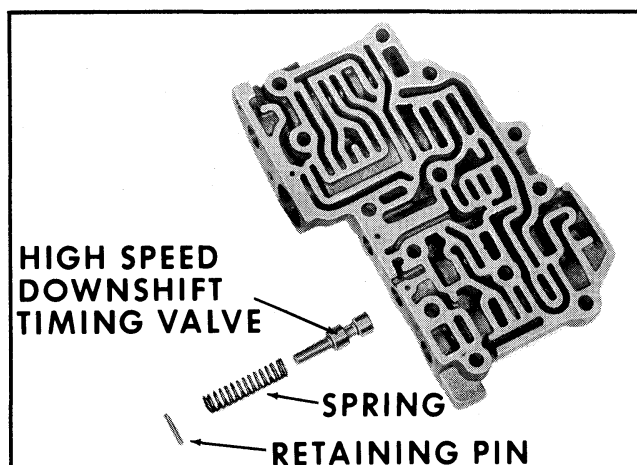

Fig. 7B-46 High Speed Downshift Timing Valve - Exploded View
4. Depress high speed downshift timing valve spring (using J-21361) and remove retaining pin by turning valve body over so that pin can fall free. Remove spring and valve (Fig. 7B-46). (Needle nose pliers can be used to depress spring and work out pin.)